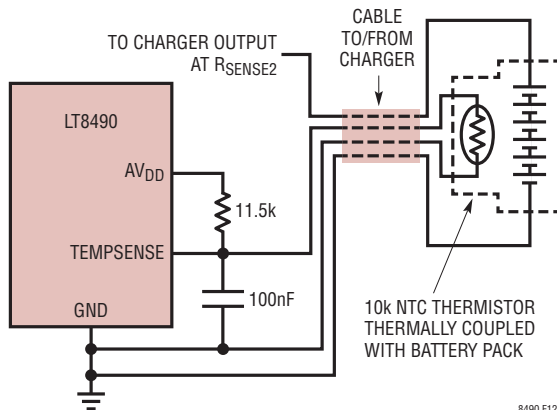

Figure 12. Battery Temperature Sensing Circuit
The LT8490 can measure the battery temperature using an NTC (negative temperature coefficient) thermistor thermally coupled to the battery pack. The temperature monitoring function is enabled by connecting a 10kΩ, $\beta = 3380$ NTC thermistor from the TEMPSENSE pin to ground and an 11.5kΩ resistor from AV_{DD} to TEMPSENSE (as shown in Figure 12). If battery temperature monitoring is not required, then use a 10kΩ resistor in place of the thermistor. This will indicate to the LT8490 that the battery is always at 25°C.
3. BATTERY DISCONNECT SENSING: The LT8490 detects if the battery and thermistor have been disconnected from the charger by monitoring the TEMPSENSE pin voltage. When the connection to the battery is severed, as shown by the arrow in Figure 12, the connection to the thermistor is also severed and the TEMPSENSE voltage rises up to AV_{DD} through the 11.5k Ω resistor. During the time when the battery is not present, the LT8490 halts charging. The charger automatically restarts the charging at Stage 0 when a battery (along with integrated thermistor or resistor) is sensed through the TEMPSENSE pin.